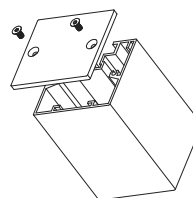

Figure 4a
- a. If applicable, install end caps at either end of each stick. (Figure 4a)